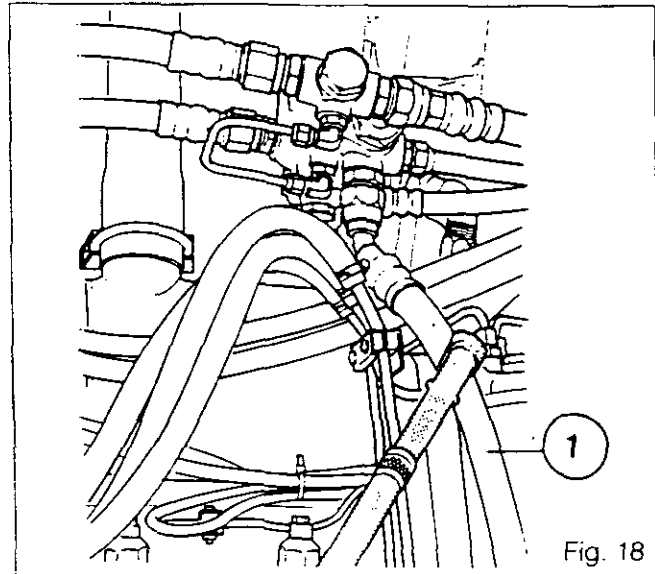

Fig. 18
1. Run the engine at approximately 1200 r.p.m and restrict the return hose (1) Fig. 18 with suitably protected pliers or clamp.